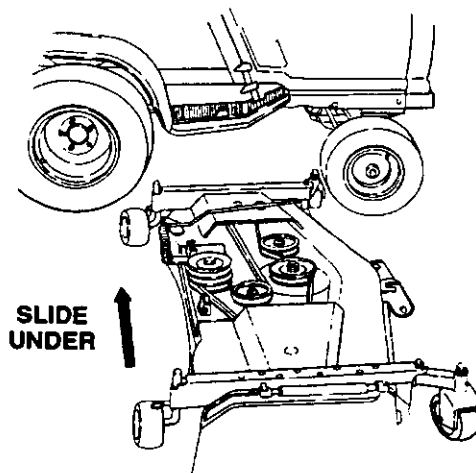

Figure 10
4. Refer to Figure 10 and position the deck on the right side of the tractor with the front of the deck facing toward the front of the tractor.